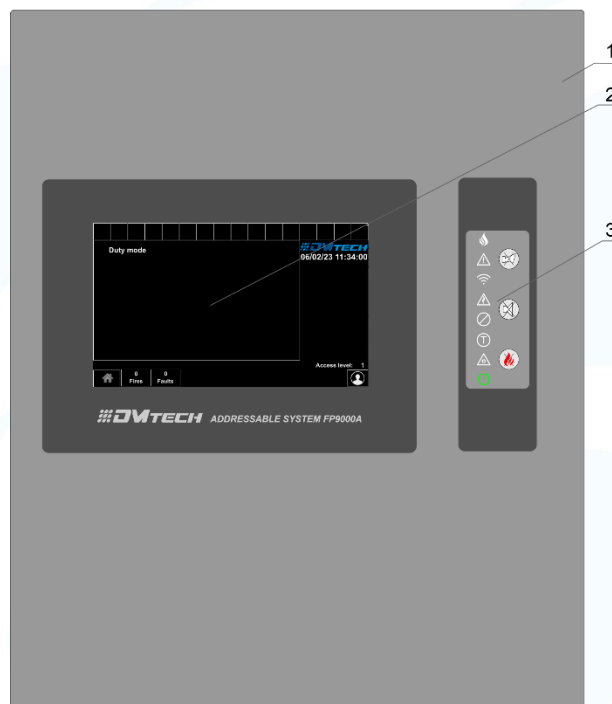

Fig.1
**3. Characteristics** - in fig. 1 presents the front panel of the FP9000A-R addressable "Repeater" - control and indication panel. Position 1 – front cover; 2 – 7” Touch Display 800x600; 3 – Panel with indication and additional buttons;